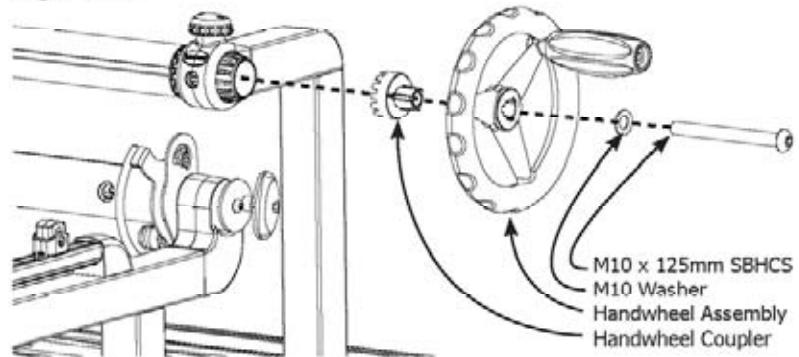

Fig. 14-2
**14-2:** Fasten Handwheel Coupler, Handwheel Assembly, M10 Washer, and M10 x 125mm SBHCS with a 6mm Allen Wrench to the end of the Rail Assembly from Step: 14-1. (Fig. 14-2)